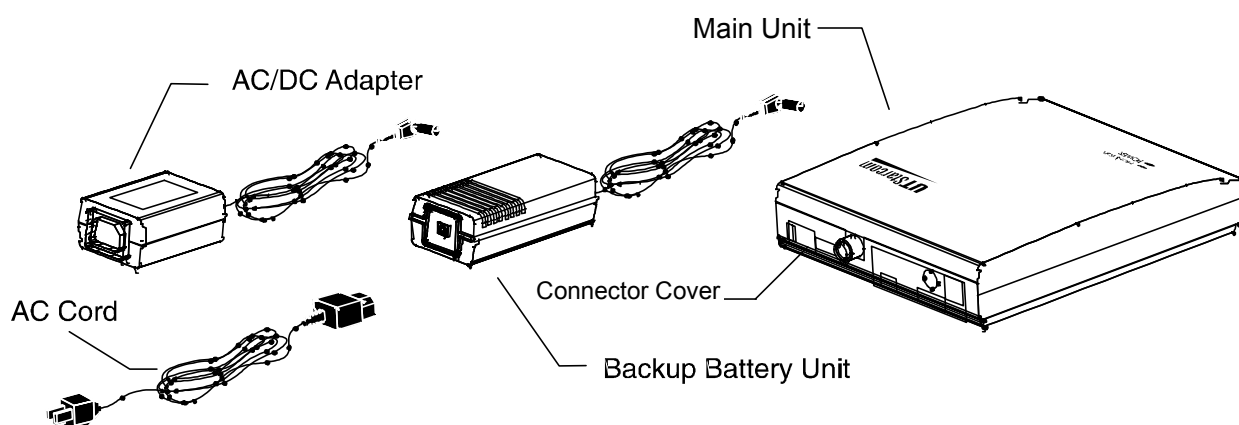

Figure 4-11 : FSU and Accessories
2. Make sure that the FSU's power cable is disconnected. Then connect the FSU to be configured to the PSJ_Jr. device. Raise the connector cover and attach the special FSU connector to the the back of the FSU. Refer to Figure 4-11. Attach the other end of the cable to the connector on the PSJ_Jr. device labeled PS.
Figure 4-11 shows the FSU and its accessories.